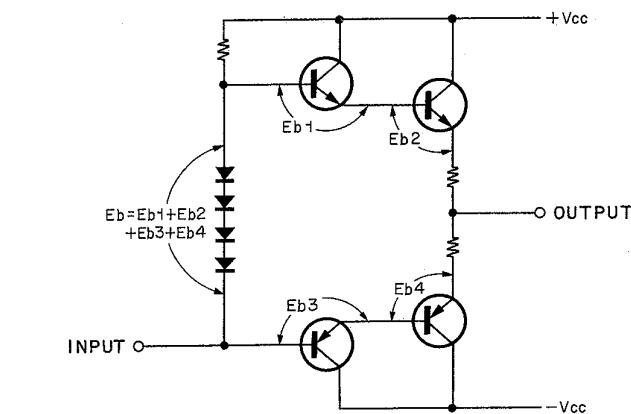
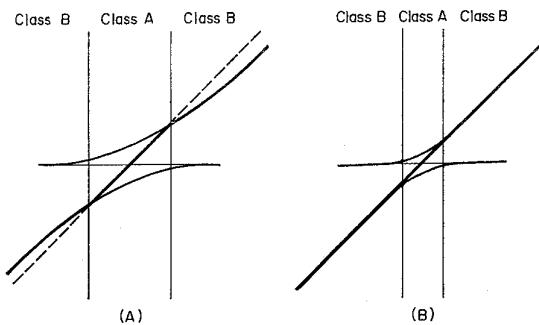
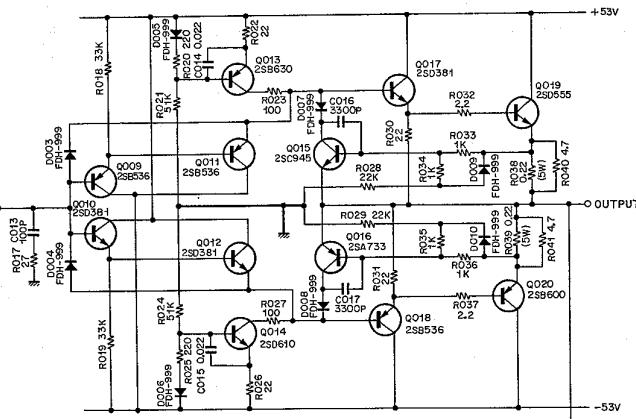

Fig. 2.4
Fig. 2.5
Fig. 2.3
Especially for a class B push-pull amplifier, distortion cannot be reduced unless the positive and negative signal amplifiers are well balanced. The amplifier in the 620, however, is best balanced thanks to the vertically and horizontally symmetric configuration as shown in Fig. 2.3. This circuit allows distortion of only 0.1% at 1KHz 100 watts output even without NFB. This degree of distortion is low enough to make the amplifier used as a high-fidelity unit even if it is given no NFB.
Fig. 2.4 shows that a change in current flowing across the diode varies the terminal voltage and that E_b changes with signal current. These changes result in the generation of distortion. It is a matter of course that signal current flowing across the diode will produce distortion. See Fig. 2.3. Transistors Q009, Q011, Q010 and Q012 that generate bias voltage form an emitter-follower circuit of class A operation. Thus this circuit does not induce distorted signals.
For an ordinary class B amplifier, crossover distortion is reduced by increasing idling current thus overlapping the operating ranges of the positive and negative transistors. The overlap portion acts as a class A amplifier. Generally, the degree of amplification decreases where a change takes place from class A to B and no linear curve is obtained as shown in Fig. 2.5 (A). However, if the circuit shown in Fig. 2.3 is current-driven, a linear curve can be obtained at the point of change from class A to B as shown in Fig. 2.5 (B).